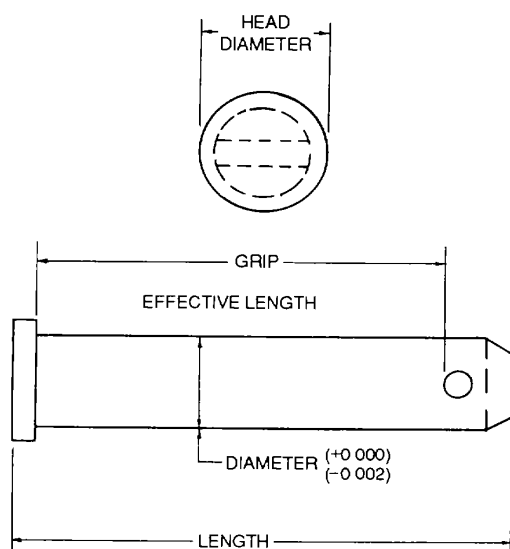

Figure 2-46. Clevis Pin
a. **Clevis Pins.** Clevis pins (flat-head), MS20392, as shown in figure 2-46, are usually used with tie rod terminals. This pin may be used in secondary controls not subjected to continuous operation, and where chances of working loose are negligible. The pin should be safetied with a cotter pin and installed with the head up, when possible, so the pin will remain in place if the cotter pin fails or works out.